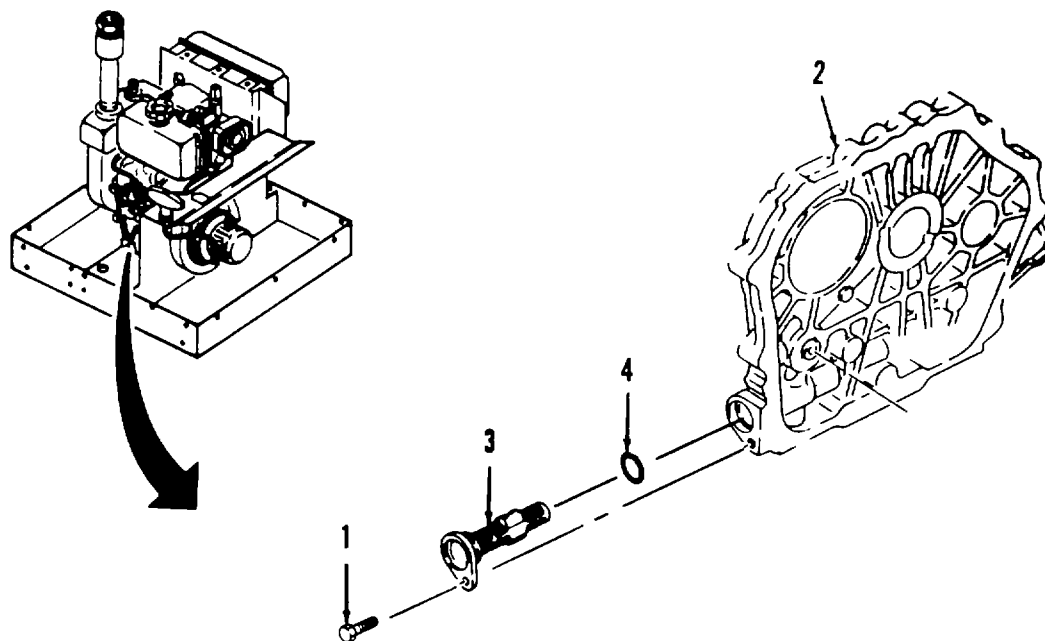

Figure 4-28. Lube Oil Strainer Repair and Replacement.
a. Removal. (Refer to Figure 4-28).
- (1) Drain oil from engine (Refer to LO10-4320-316-12).
- (2) Remove hex head bolt (1) from crankcase (2).
- (3) Remove lube oil strainer (3) and O-ring (4). Discard O-ring.